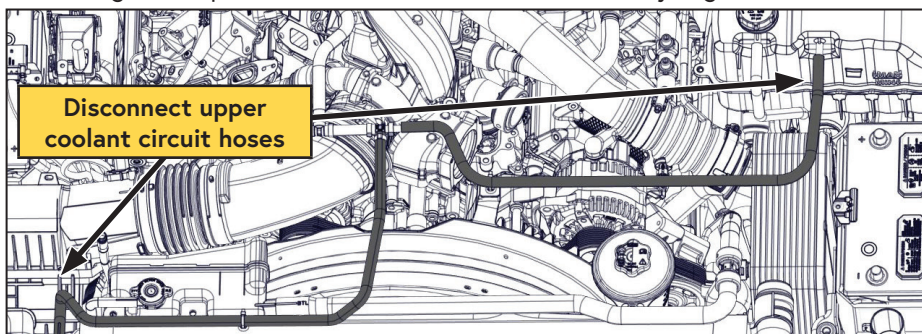

Figure 1 — Disconnect upper coolant circuit hoses
- ☐ Disconnect the small diameter upper cooling circuit hoses from the primary radiator and the primary degas bottle. Shift the hoses away from the front of the engine compartment and secure them out of the way (Figure 1).